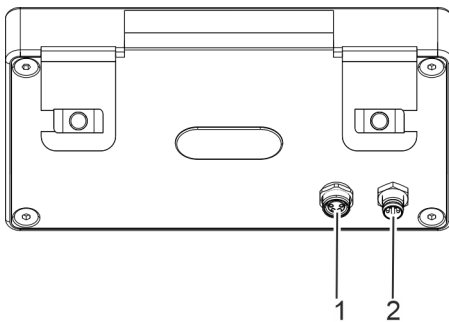
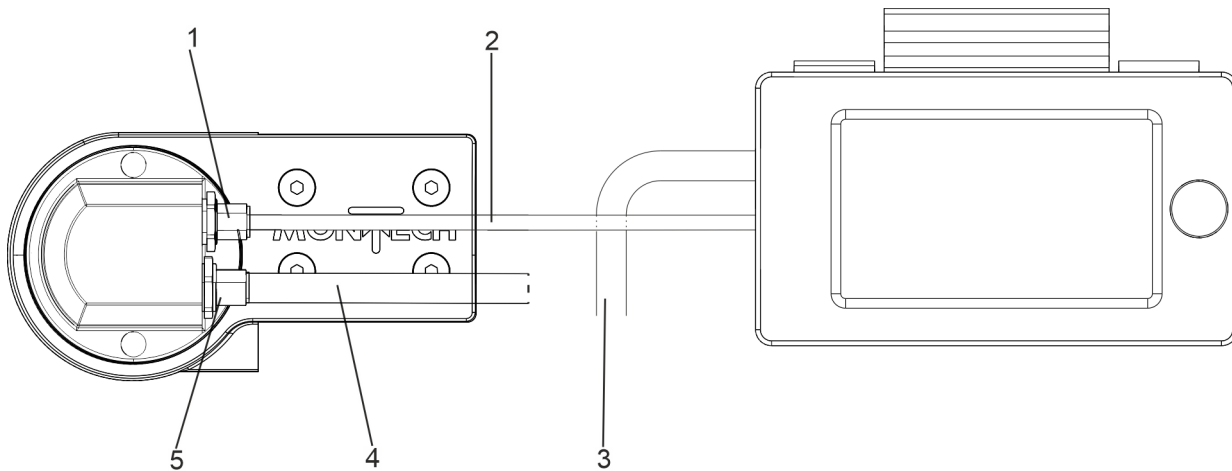

Fig. 42: MonTouch connections
Fig. 43: Connecting MonTouch (example: drive unit on the right)
1. ➤ Establish a signal line between the conveyor drive unit and MonTurn. Connect the "MonTouch" signal cable (Fig. 43/2) at one end to the signal connection (Fig. 42/1) of the MonTurn.
2. ➤ Connect the other end of the "MonTurn" signal cable to the signal connection (Fig. 43/1) of the drive unit.
3. ➤ Connect the "MonTouch" power cable (Fig. 43/3) to the power connection (Fig. 42/2) of MonTouch.
4. ➤ Connect the "TB40" power cable (Fig. 43/4) to the power connection (Fig. 43/5) of the drive unit.
5. ➤ Route and wire the "MonTouch" (Fig. 43/3) and "TB40" (Fig. 43/5) power cables to the power supply unit.